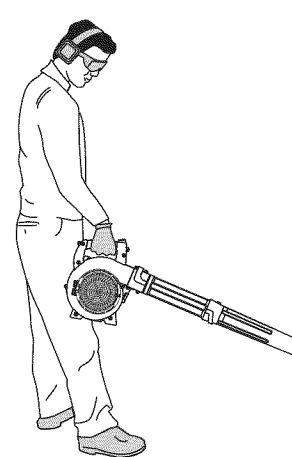

Fig. 15
WARNING: After starting the unit, always stand on the left side of the unit to operate it as shown in figure 15 to keep from blocking the air intake.
- **Hold the blower with the right hand.** Do not stand on the right side of the blower when operating the unit (Fig. 14). If you do, you will be blocking the air intake and this will affect the unit's performance. Instead, be sure to stand on the left side of the unit to maximize the unit's efficiency (Fig. 15).